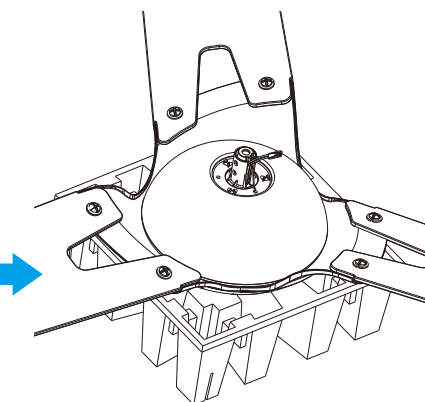

Fig 1.2
- Three airfoils installed.(Fig.1.2)